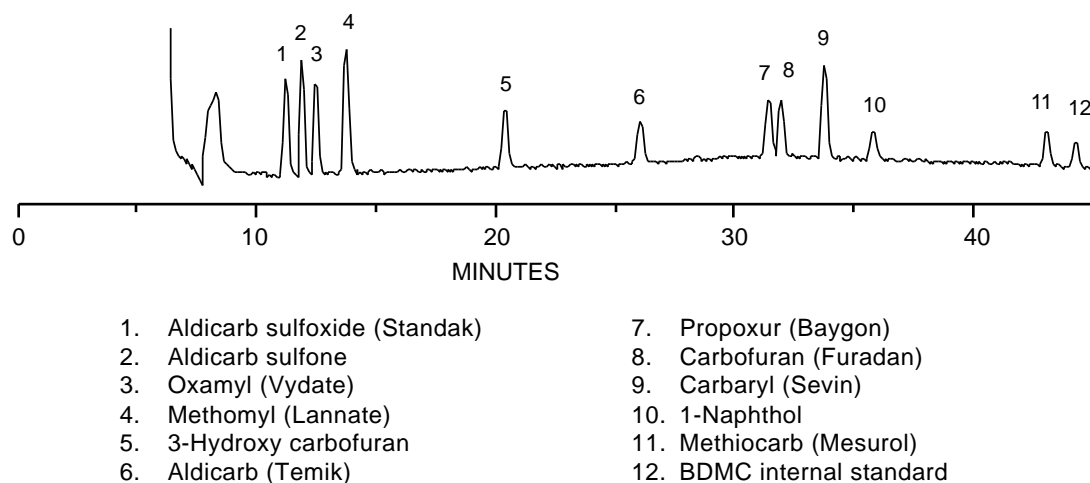

**Figure 1-1.** Analytes in the Pickering carbamate test mixture. (\*4-Bromo-3,5-dimethylphenyl-N-methylcarbamate; an internal standard)
The general structure of the carbamate insecticides is an *N*-methyl substituted urethane with the variation in the ester moiety. The structural formulas for the ten analytes specified in USEPA Method 531.1 are shown in Figure 1-1 (including 1-naphthol and BDMC). They are listed in the order in which they elute from the Pickering carbamates column. All but 1-naphthol (10) contain the *N*-methylcarbamoyl moiety (indicated by –OR). The hydrolysis of carbaryl (9) in the post-column reactor also produces 1-naphthol. Note that 1-naphthol hydrolyzed from carbaryl and 1-naphthol in the calibration standard are at different retention time. This observation is useful for troubleshooting, see page 5-13.